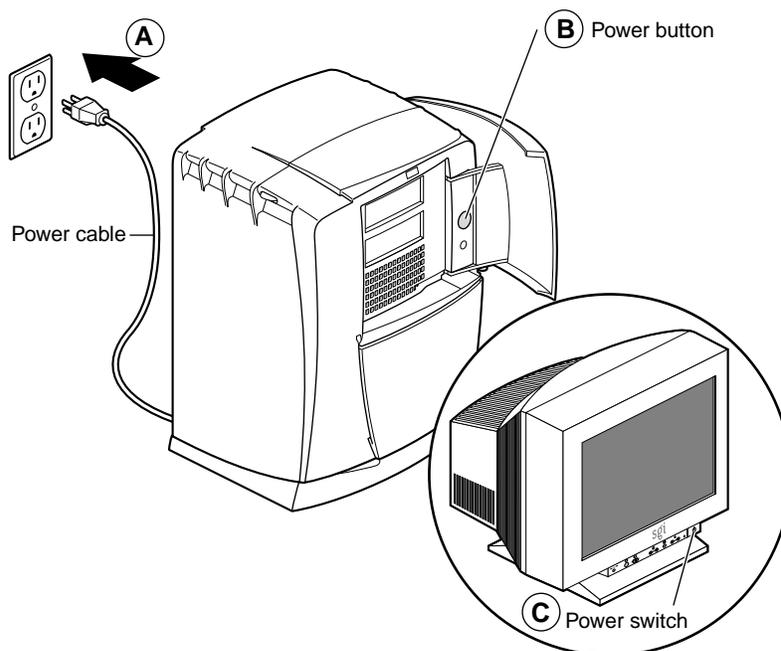

Figure 2-27 Powering On the Octane2 Workstation
1. Plug in the power cable (see A in Figure 2-27).
2. Press the power button (B) on your workstation.
3. Press the monitor power button (C) to turn on your monitor.